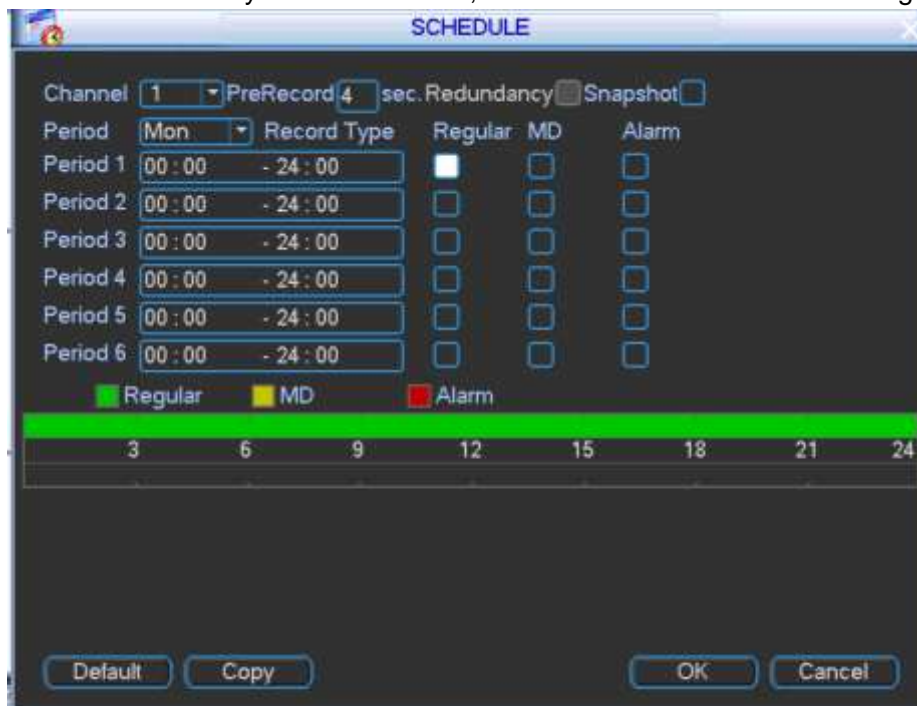

Figure 4-38
Step 1 From main menu->System->Schedule, enter schedule interface. See Figure 4-38.